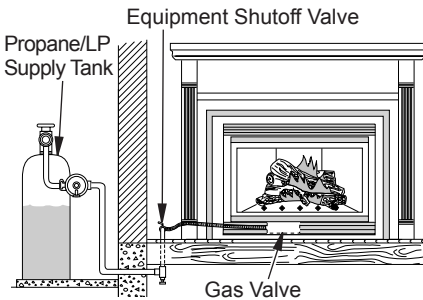
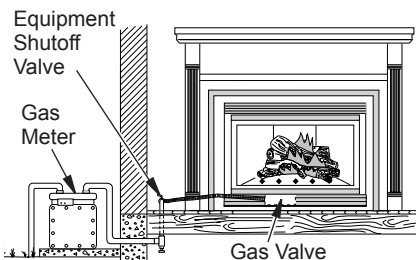

Figure 26 - Checking Gas Joints for Propane/LP Gas Fireplace
Figure 27 - Checking Gas Joints for Natural Gas Fireplace
3. Check all joints from propane/LP supply tank or gas meter to equipment shutoff valve (see Figure 26, for propane/LP or Figure 27, for natural gas). Apply noncorrosive leak detection fluid to all joints. Bubbles forming show a leak. Correct all leaks at once.
4. Check all joints from equipment shutoff valve to gas valve (see Figure 26, for propane/LP or Figure 27, for natural gas). Apply non-corrosive leak detection fluid to all joints. Bubbles forming show a leak. Correct all leaks at once.